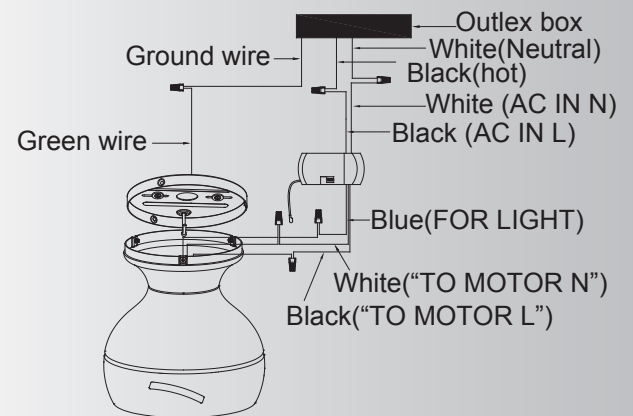

Fig. 9
Connect the BLACK wire from the fan to BLACK wire marked "TO MOTOT L" from the receiver. Connect the WHITE wire from the fan to the WHITE wire marked "TO MOTOR N" from the receiver. Connect the BLUE wire from the fan to the BLUE wire marked "FOR LIGHT" from the receiver. Secure all the wire connections with the plastic wire nuts provided. (Fig. 9)
Step 2. Remote Receiver to Outlet Box Electrical Connections: Connect the BLACK (hot) wire from the ceiling to the BLACK wire marked "AC in L" from the receiver. Connect the WHITE (neutral) wire from the ceiling to the WHITE wire marked "AC in N" from the Receiver. Secure the wire connections with the plastic wire nuts provided. (Fig. 9)
Step 3. If your outlet box has a ground wire (green or bare copper) connect it to the fan ground wires : Secure the wire connection with a plastic nut provided. After connecting the wires, spread them apart so that the green and white wires are on one side of the outlet box and black wire is on the other side. (Fig. 9)